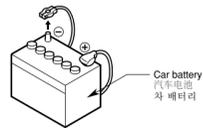

Figure 1 / 图 1 / 그림 1
3. Be sure to disconnect the battery "⊖" terminal before starting. This is to prevent short circuits during installation. (Figure 1)